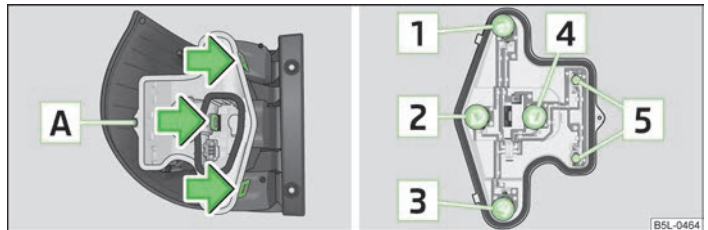

Fig. 172 Remove the middle part of the light/tail light: Bulb arrangement
Overview of the location of the bulbs » Fig. 172.
- › Unscrew the securing screw **A** » Fig. 172 with the aid of the Torx wrench and press the three catches in direction of arrow. Remove the plastic lamp holder.
- › To replace the lamp **1**, **2**, **3** or **4** » Fig. 172 turn the lamp socket **anti-** clockwise as far as it goes and remove it from the housing or remove the lamp **5** from the socket.